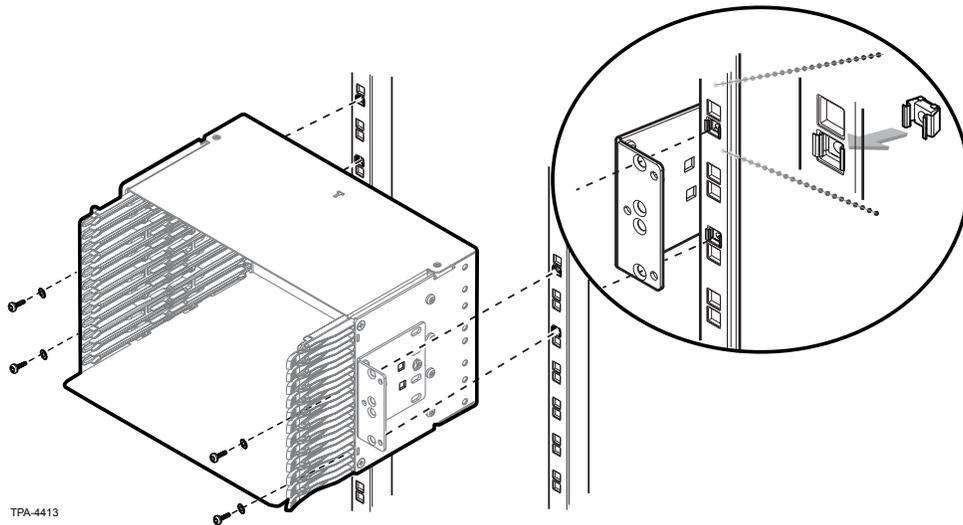

Figure 7
Step 1: Position the housing for installation into the front access frame (Figure 7) as described in SRP 003-948.